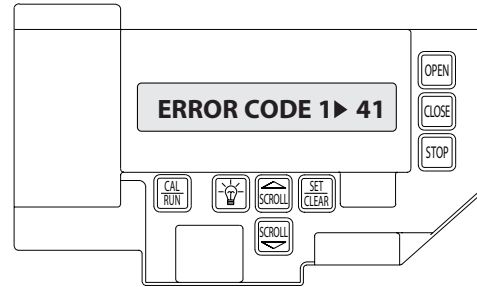

Figure 1
- 2) Press SCROLL  key until display reads "CYCLES>1,2,3 etc. where the number is the number of open/close cycles the operator has performed. **Figure 1**.
The error code memory stores the last 10 error codes in sequence. Once 10 codes are stored, the oldest code is erased to make room for the newest code. These codes are displayed in calibration mode. The display will flash the number of the error code and the 2-digit error code followed by a description of the error code. **Fig. 1 & 2.**